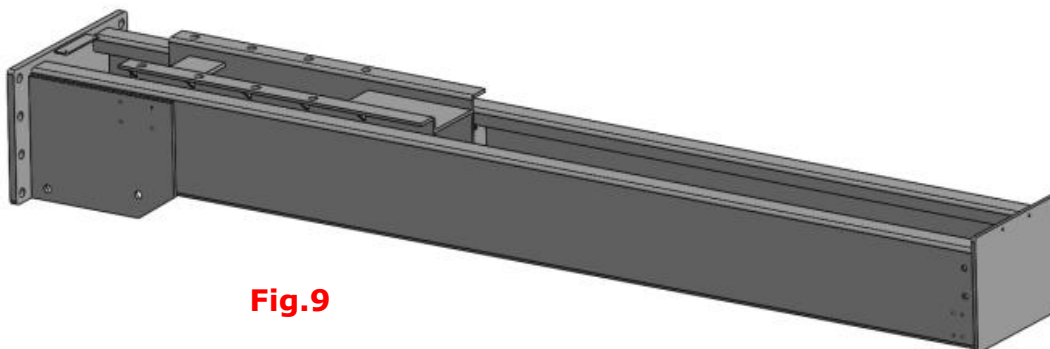

Fig.9
1.Lay the column flat to the ground. (See Fig.9)